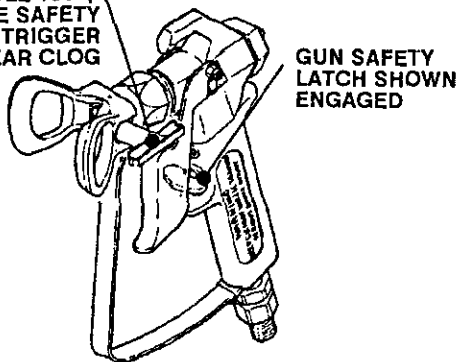

Fig 10-1
1. If the spray tip does clog, release the gun trigger, engage the gun safety latch, and rotate the RAC IV handle 180°. See Fig 10-1.